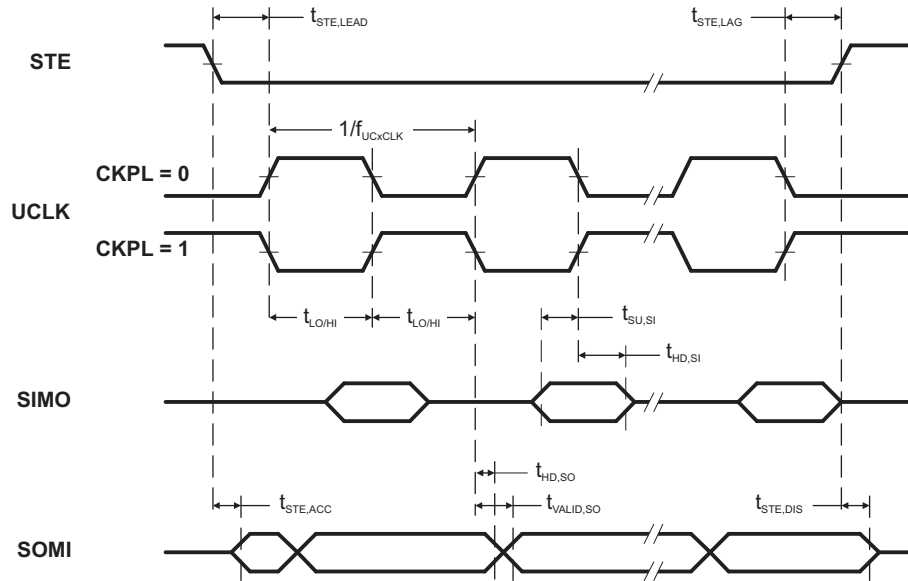
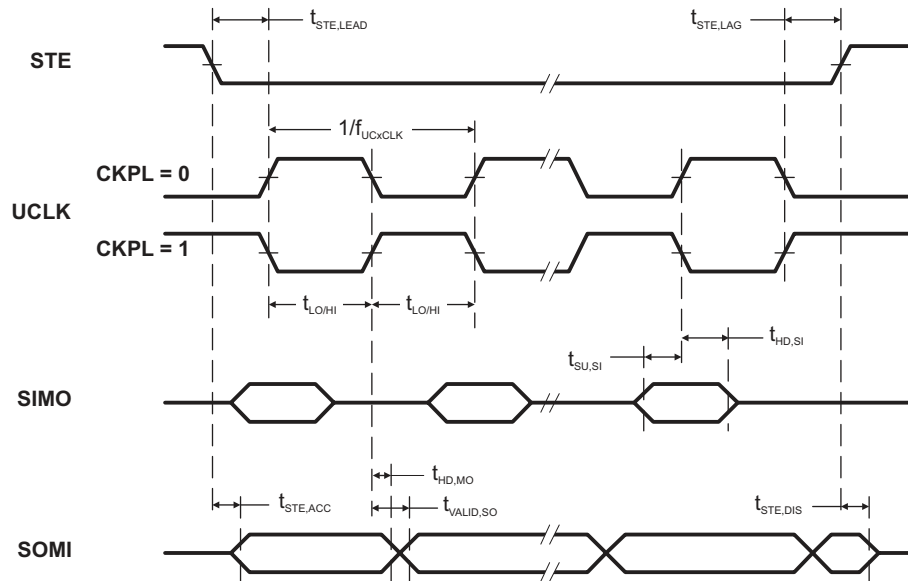

Figure 14. SPI Slave Mode, CKPH = 0
Figure 15. SPI Slave Mode, CKPH = 1
(see Note (1), Figure 14 and Figure 15)